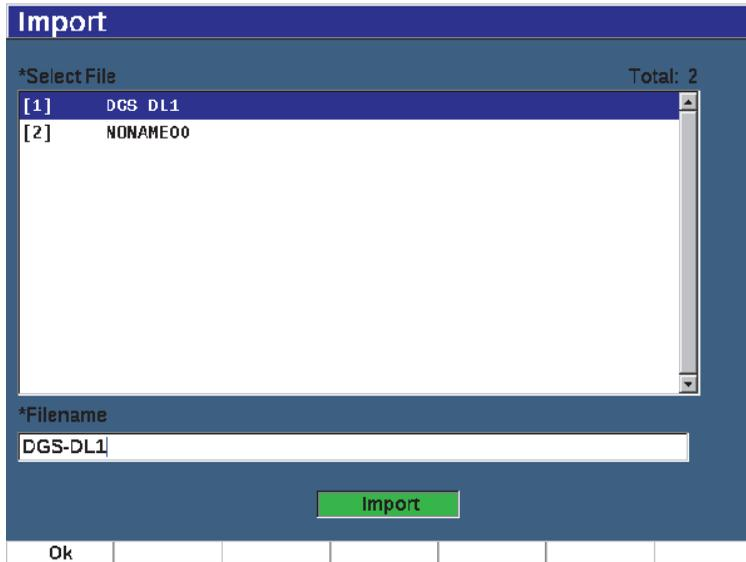

Figure 10-20 Import page
1. Choose **Import**, (P3 key) to display the **Import** page (see Figure 10-20 on page 212).